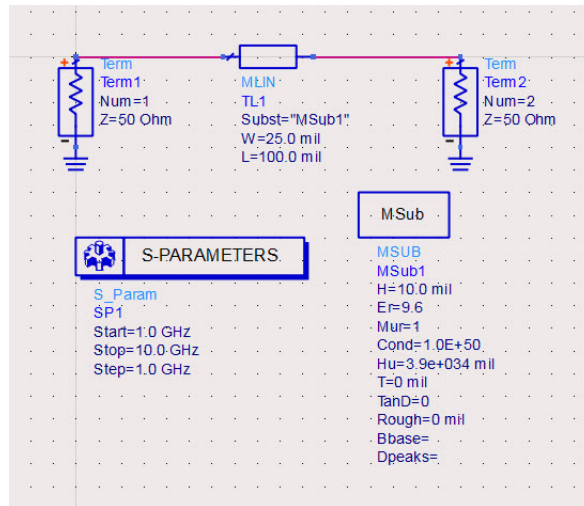

Figure 1: ADS Schematic for the THRU standard
- Follow the instruction in the video to create a new workspace. Select “New Schematic Window” and draw the components for you TRL standard as shown in Figure 1. Note the numbers presented here are **NOT** for this design problem.